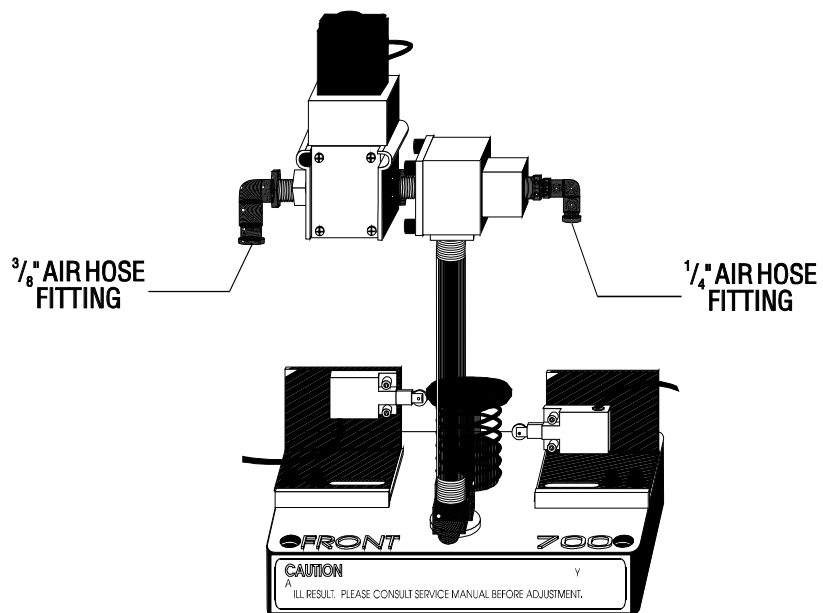

Fig. 2-2 Tool release piston with solenoid valve.
5. Remove the tool release air hose at the fitting shown in Fig. 2-2.